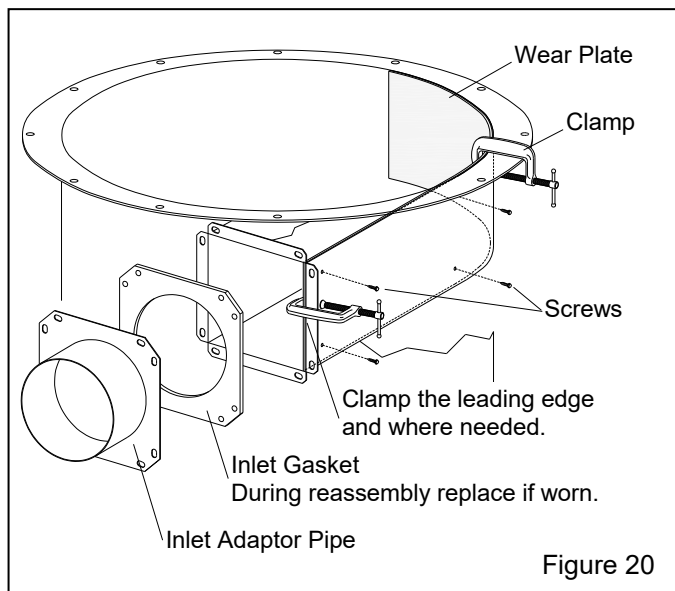

Figure 20
7.5.2 Replace wear plate in reclaimer with bolt-on, removable top, 600 cfm and 900 cfm – Figure 20